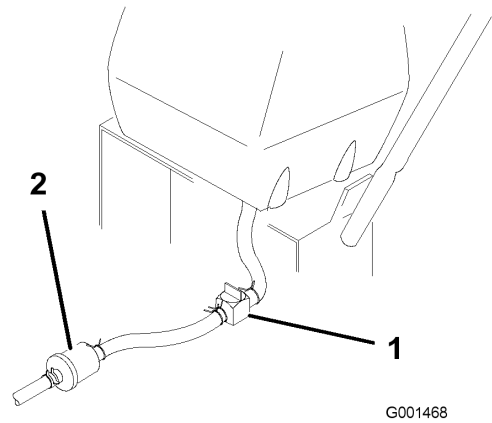

Figure 27
2. Close the fuel shut-off valve at the fuel tank (Figure 27).
3. Squeeze the ends of the hose clamp together and slide it up the fuel line away from fuel filter (Figure 27).
4. Pull the fuel line off the fuel filter (Figure 27). Open the fuel shut-off valve and allow the gasoline to drain into a gas can or drain pan.
3. Close fuel shut-off valve at the fuel tank (Figure 27).
- 7. Open fuel shut-off valve at fuel tank (Figure 27).